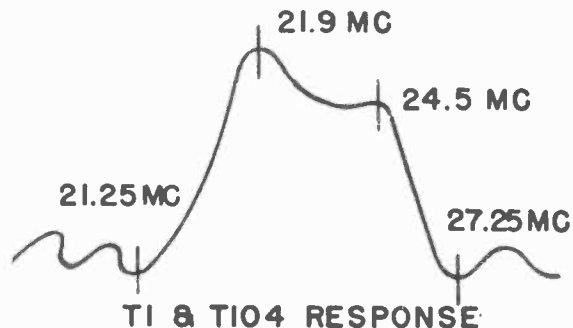

Figure 3
4. Adjust T1 and T104 for the response of Fig. 3.